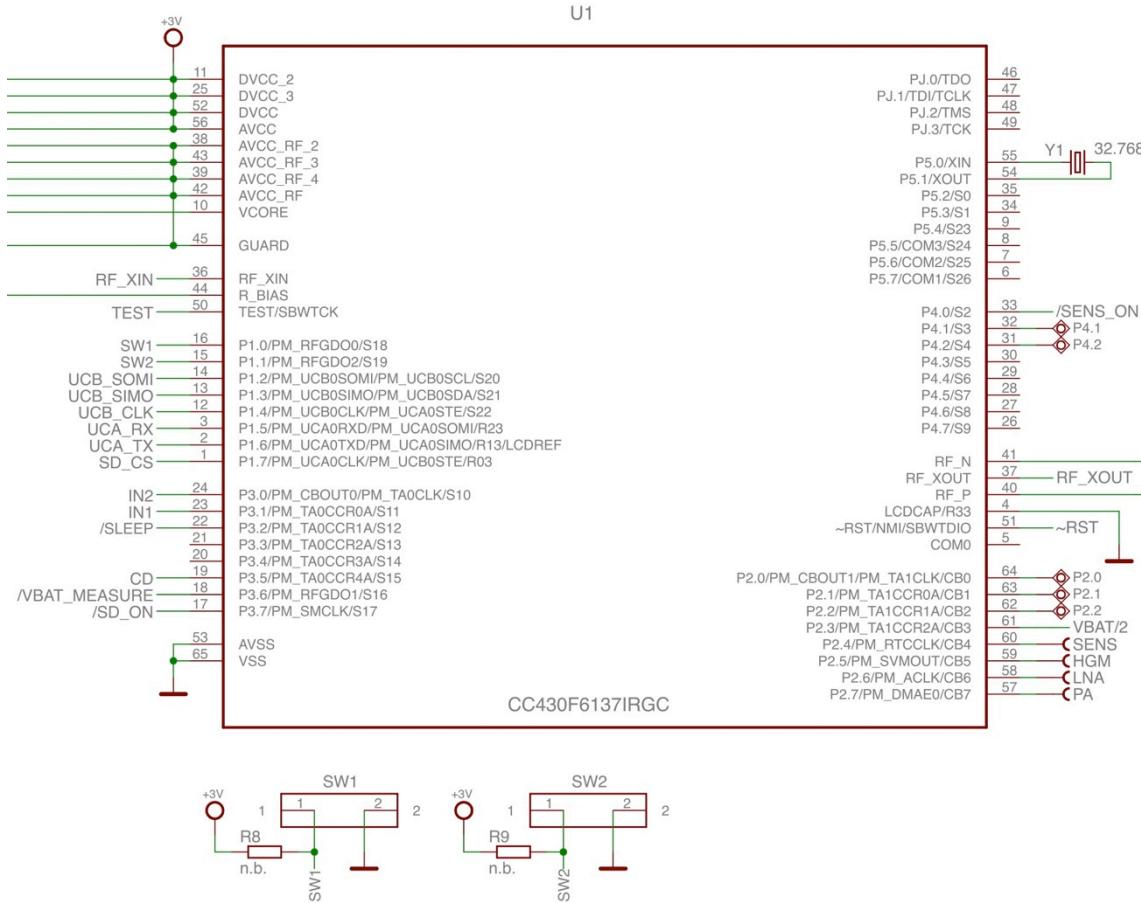

Figure 7.- CC430F6137
- The following example uses the button SW1 to turn P2.0 on or off. Locate the pin number with the help of Figure 7.